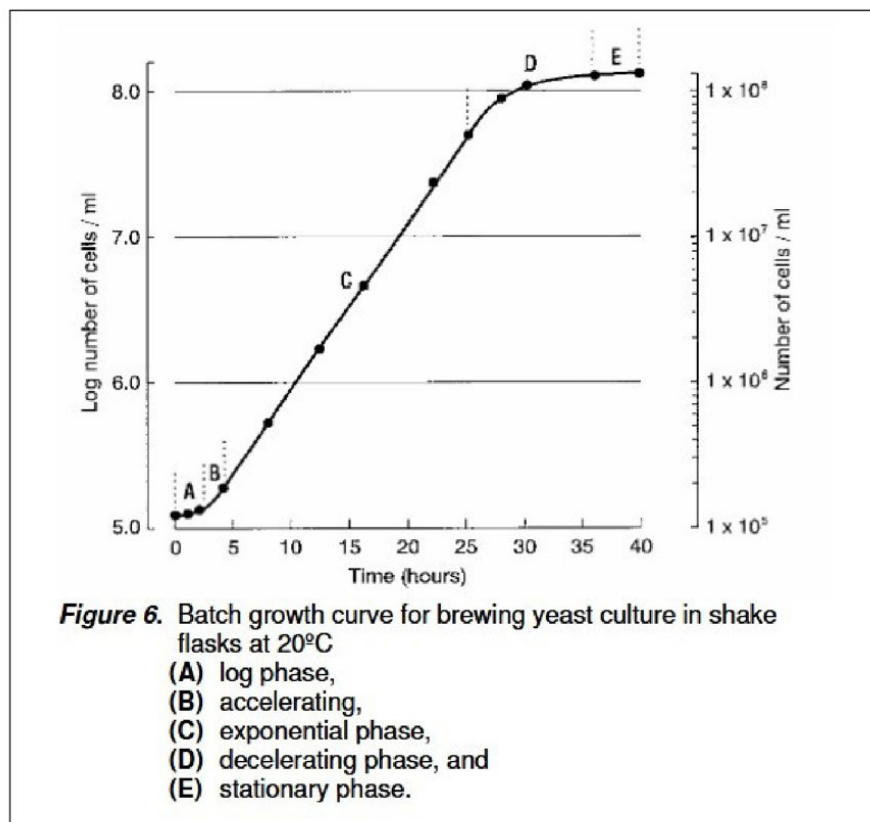

Figure 34 – Yeast cell growth curve
Figure 34 shows a curve to illustrate the growth of yeast cells. (1) The overall process of fermentation comprises four distinct phases: Lag Phase, Exponential Phase, Stationary Phase and Decline Phase.